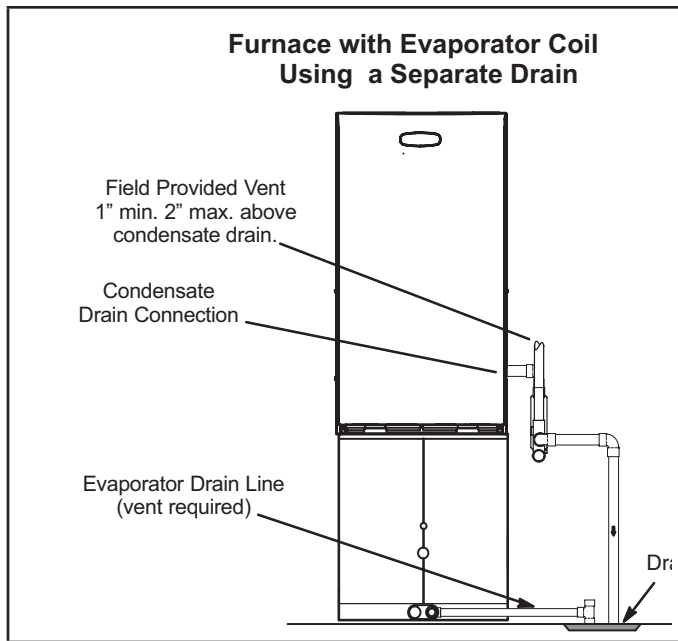
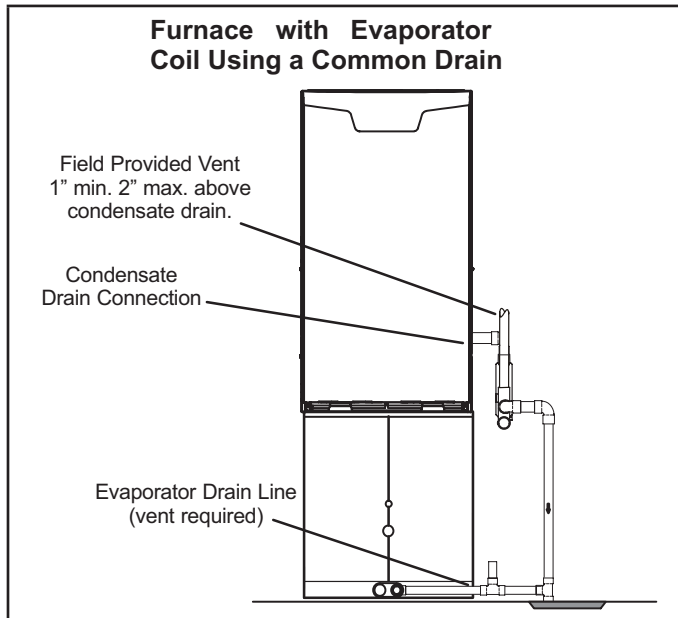
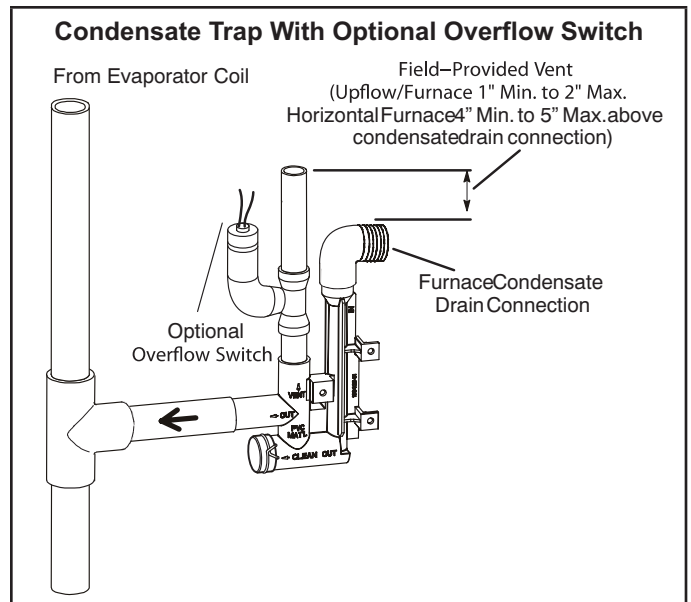

FIGURE 51
FIGURE 52
FIGURE 53
- 5 - FIGURE 51 shows the furnace and evaporator coil using a separate drain. If necessary, the condensate line from the furnace and evaporator coil can drain together. See FIGURE 52 and FIGURE 53. The field provided vent must be a minimum 1" to a maximum 2" length above the condensate drain outlet connection.